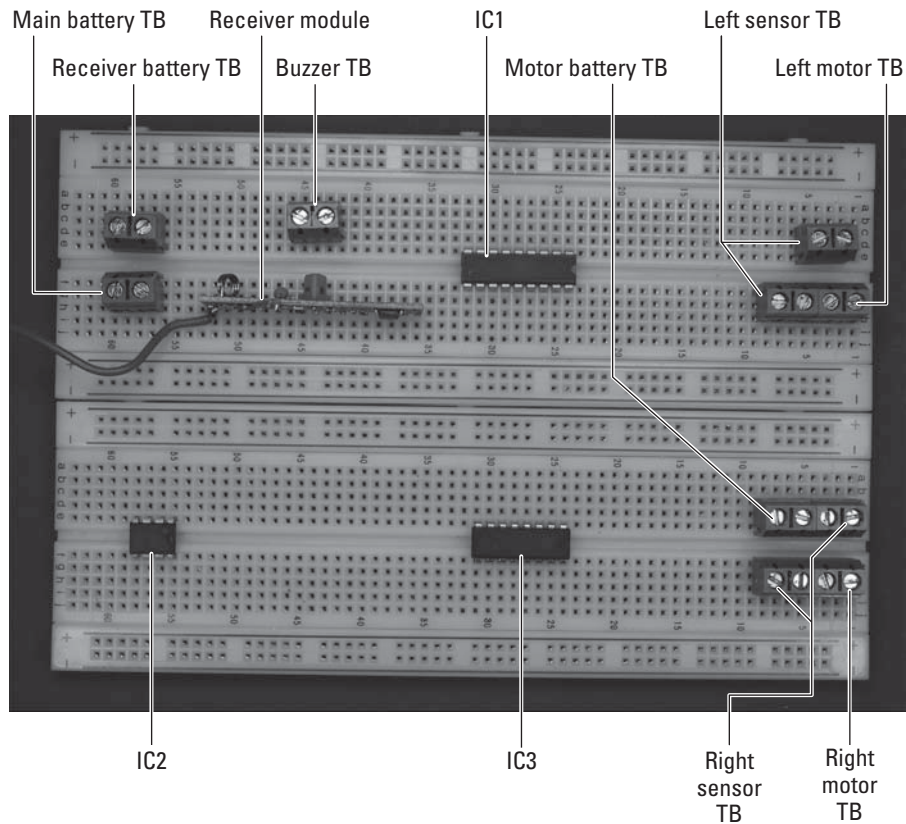

Figure 13-18: Place the ICs and terminal blocks on the breadboard.
2. Place the HT12D (IC1), the LM555 (IC2), the L293D (IC3), the receiver module, and ten terminal blocks on the breadboard, as shown in Figure 13-18.